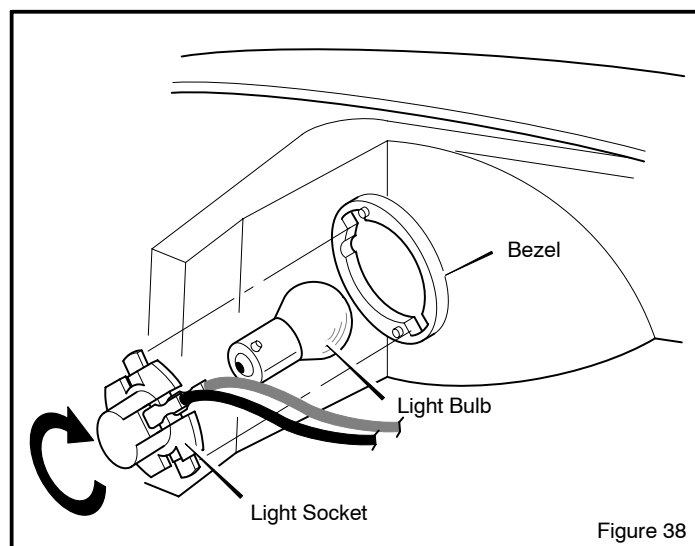

Figure 38
2. Turn the **light socket** until the tabs on the socket align with the notches in the **bezel** (Figure 38). Remove the **light socket**. Turn the **light bulb** and remove the bulb.